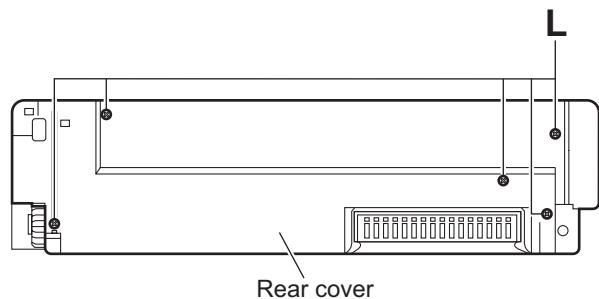

Fig.10
(See Figs.10 to 12)
- (1) Remove the five screws **L** attaching the front panel assembly. (See Fig.10)